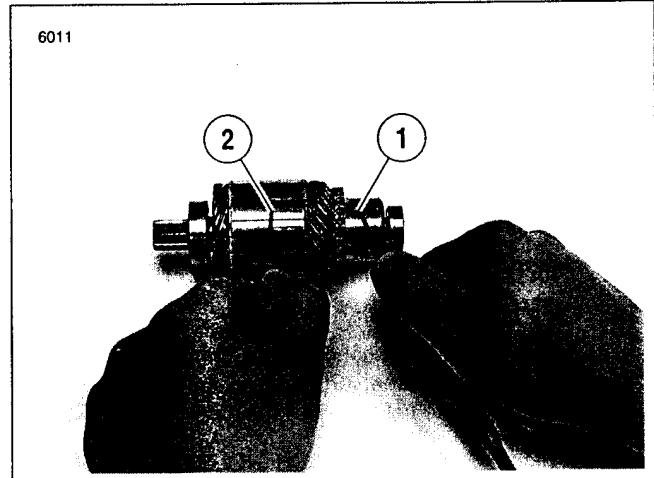
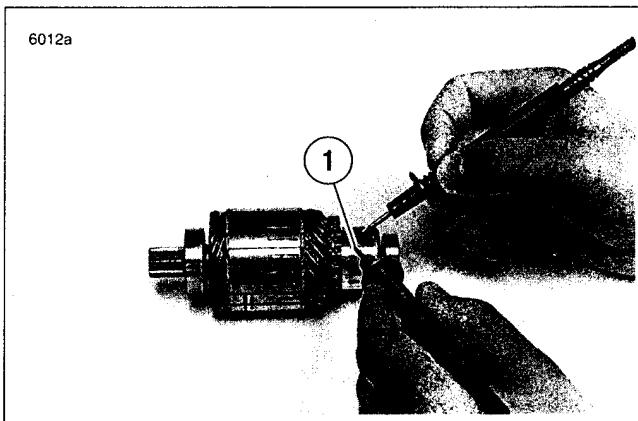

Figure 5-17. Grounded Armature Test
Figure 5-18. Open Armature Test
11. See Figure 5-17. Check for a GROUNDED ARMATURE with an ohmmeter or continuity tester.
- Touch one probe to any commutator segment (1).
- Touch the other probe to the armature core (2).
12. See Figure 5-18. Check for OPEN ARMATURE with an ohmmeter or continuity tester.
- Check for continuity between all commutator segments (1).